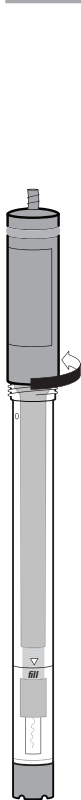

Figure 6
1. Hold the electrode vertically and unscrew the electrode cap from the electrode body. See **Figure 6**.